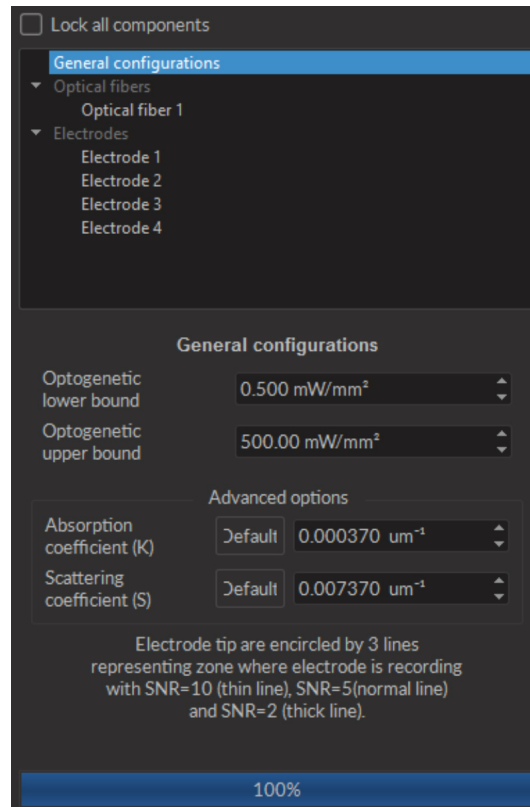

Figure 4.27: Configuration Box
3. The **General configuration** section (Fig. 4.27) allows the definition of general elements that will affect the whole simulation.